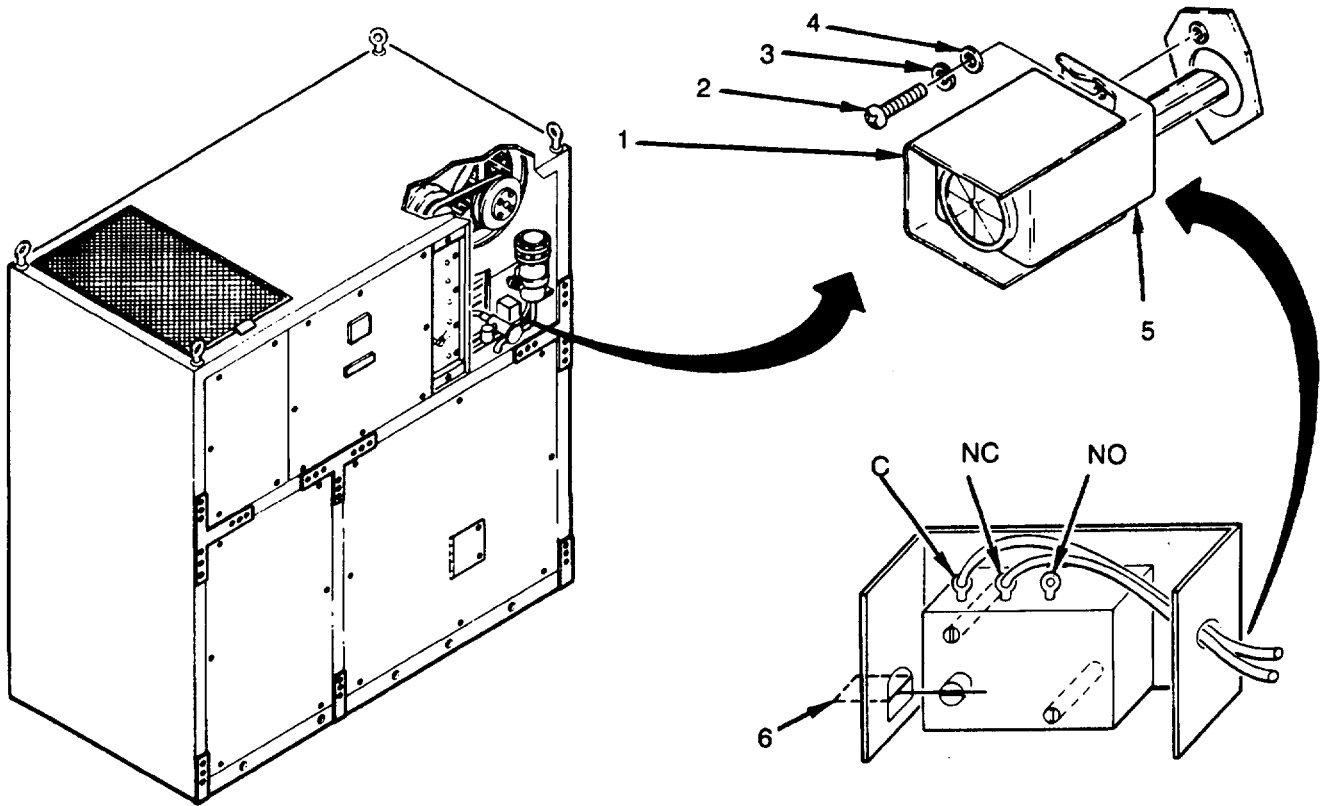

Figure 4-84. Air Flow Switch (S8)
1. Check for missing mounting hardware (see Figure 4-84).